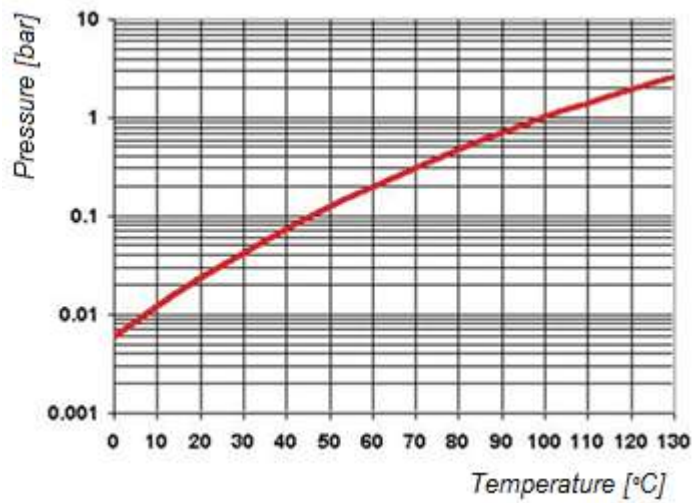

Figure 8: Water vapour line
- When the pressure decreases, the boiling point of water is reduced (see Figure 8). This physical law can cause a product to boil. In addition to contamination of the machine, this provides for loss of weight and quality of the product to be packed